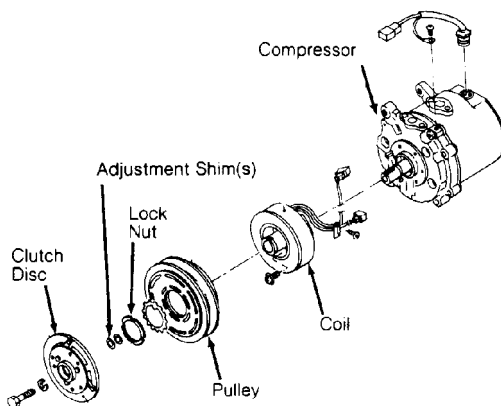

Fig. 1: Exploded View Of Compressor (Atsugi Rotary Vane)
2) If clearance is not correct, replace adjustment shim(s). See Fig. 1. Break-in clutch by engaging and disengaging clutch about 30 times.